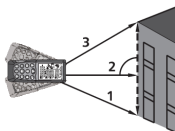

Fig. 10: Misura Indiretta a 3 punti – Modo 1
3. Position the instrument in the lowest point (1) of measurement (see Fig. 10) and press the key or the side **MEAS** key. The result appears on the first partial display. The symbol “◀” appears on the display with side “2” flashing
4. Position the instrument as horizontally as possible (2) and press the key or the side **MEAS** key to measure. The result appears on the second partial display. The symbol “◀” appears on the display with side “3” flashing
5. Position the instrument in the highest point (3) of measurement (see Fig. 10) and press the key or the side **MEAS** key to measure. The result appears on the second partial display